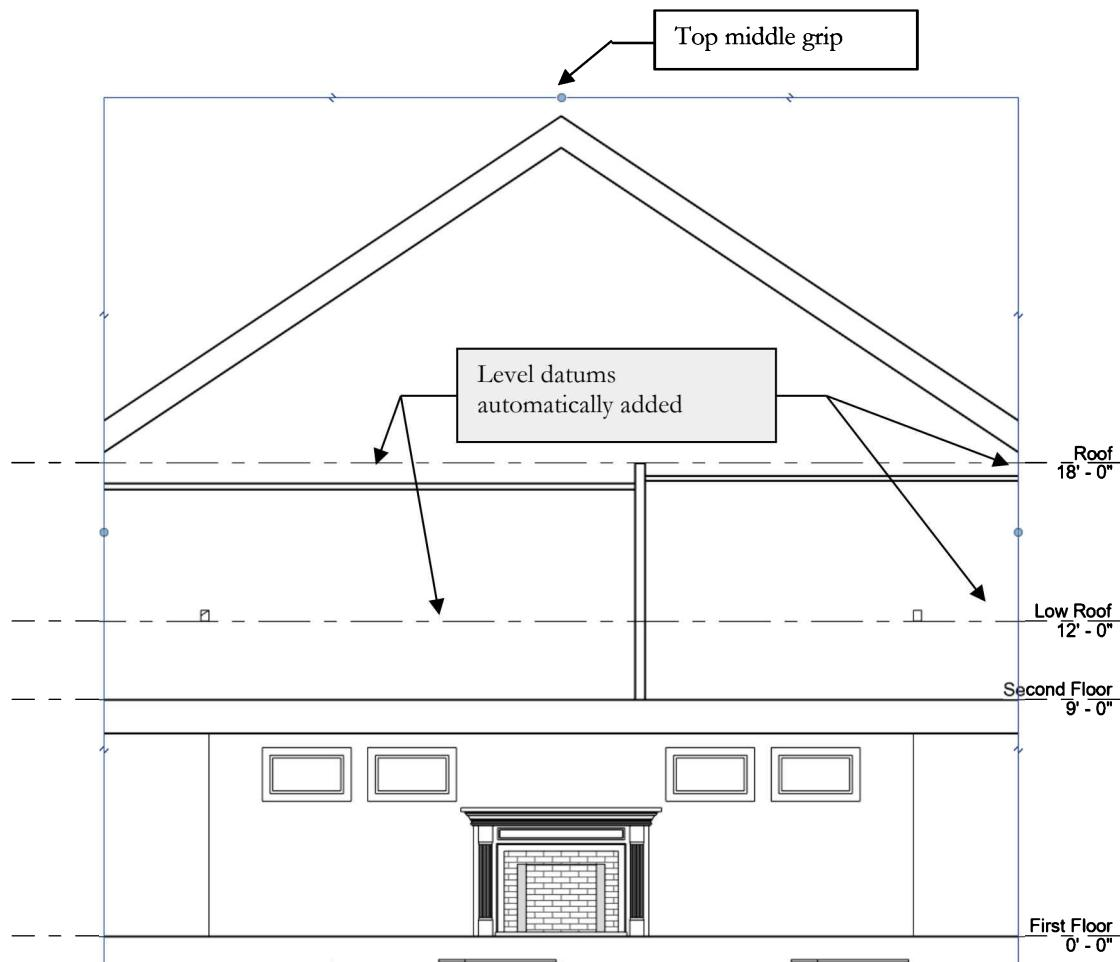

FIGURE 10-3.4 Living Room - East elevation: crop region selected and modified
10. Select the *cropping region* and drag the top middle grip upward, to increase the view size vertically (Figure 10-3.4).